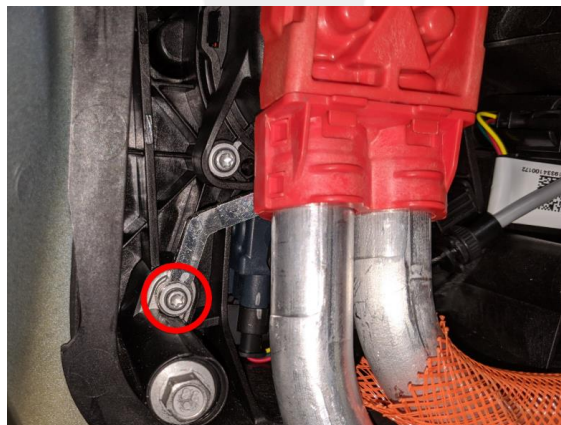

Figure 2
4. Perform a torque check on the screw that attaches the PE busbar to the charge port carrier (torque 3.0 Nm) (Figure 2).